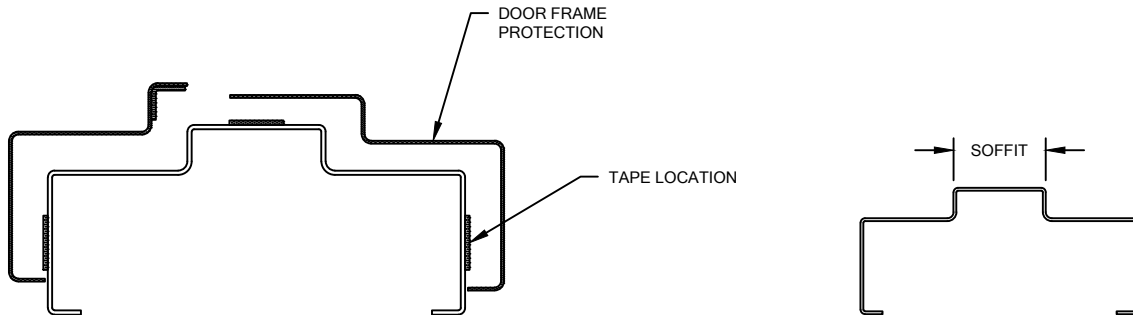

FIGURE 1
5. APPLY THE DOUBLE STICK TAPE TO THE NON-HINGE SIDE OF THE DOOR JAMB AND LARGE PORTION OF THE DOOR PROTECTION MATERIALS. SEE FIGURE 1.